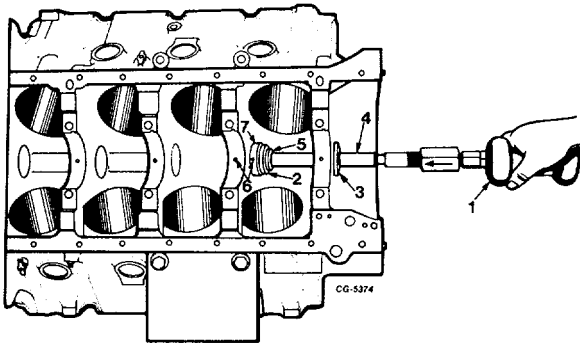

Fig. 81 Installing Second Bearing
9. Position the new bearing on the second adapter and with the adapter flange toward the front of the block, install the bar through the front and second adapter. Then install "C" washer in front of the second adaptor. Align the oil hole and push in second bearing, Figure 81.